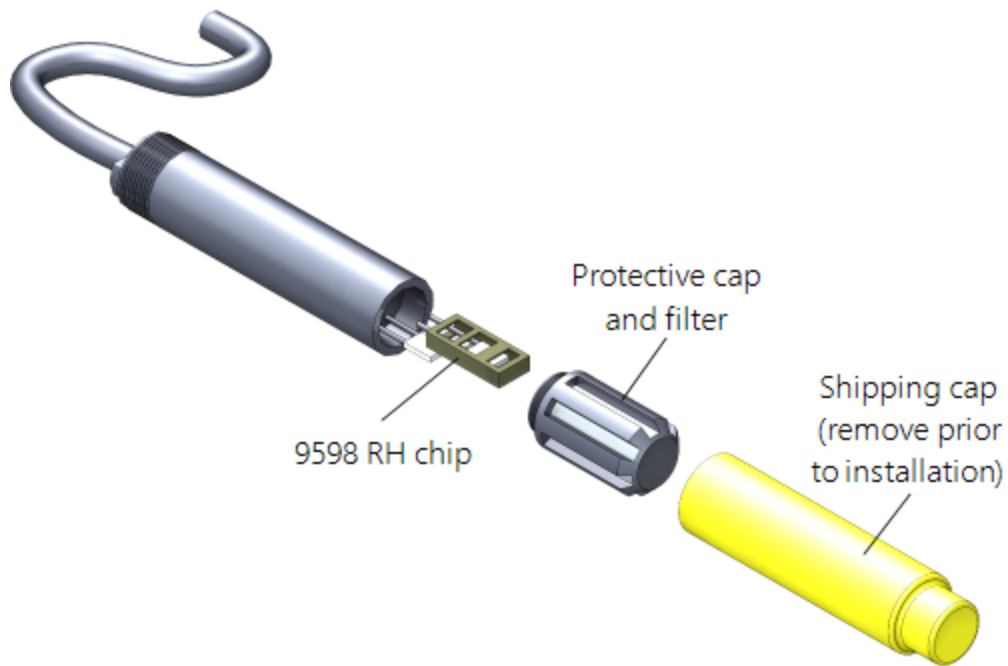

FIGURE 7-1. Exploded view of the temperature and RH sensor (adapter not shown)
- Check calibration of the HMP60-ETS Temp/RH sensor, which tends to drift up over time giving readings higher than 100%. Replace RH chip if necessary (refer to FIGURE 7-1 (p. 70) and Procedure for removing RH chip (p. 71)).
1. Unscrew the protective cap (see FIGURE 7-1 (p. 70)).